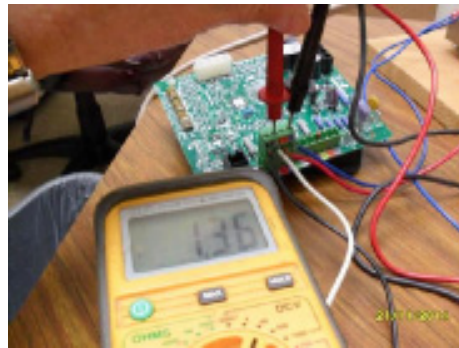

Figure 2
2. DC voltage from C to data 2 should read approximately 1.3vdc. or 2.2vdc for some furnaces. (Figure 2)